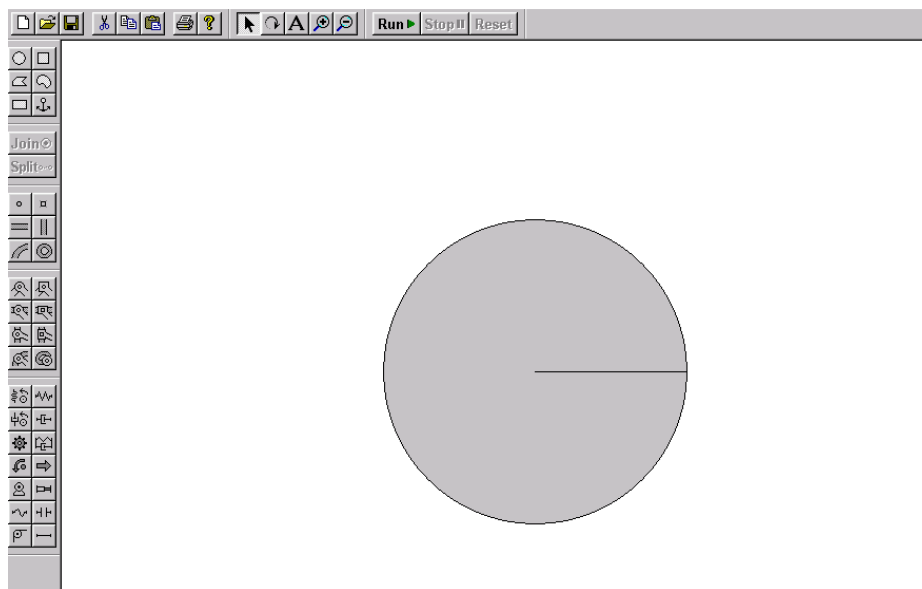

Figure 1
3. Using the Zoom-In and Zoom-Out buttons, get a view similar to the Figure 1.